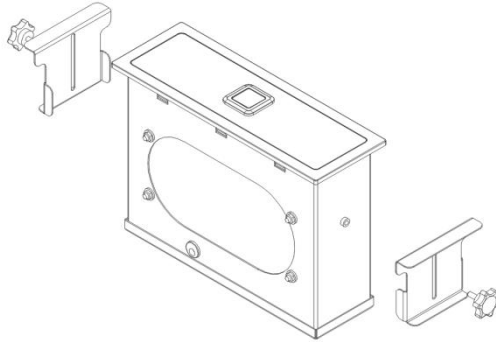

Fig. 3 – Remove Mounting Brackets
- 5.3 Unscrew the two (2) Thumb Screws to remove the two (2) Mounting Brackets from the unit, as shown in Fig. 3.